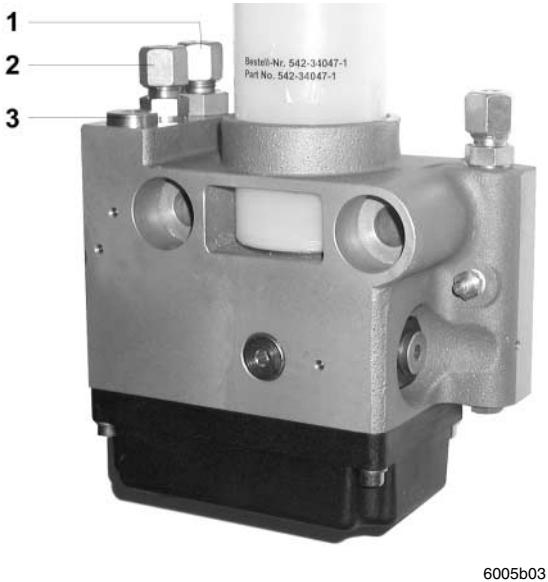

Fig. 2 Hydraulic oil connection of the pump HTL 101
- via the pressure connection P (Fig. 2, item 1)
- and back to the hydraulic system of the carrier via the return line connection R (Fig. 2, item 2)
The flow quantity of the hydraulic oil can be adjusted via the regulating throttle valve (Fig. 2, item 3), thereby, adjusting the output quantity of the pump accordingly. The throttle valve is notched, whereby eight notches correspond to one complete rotation.
- 1 - Pressure connection (P), M 16 x 1.5 with integrated oil strainer
- 2 - Return connection (R), M 16 x 1.5
- ☞ Open the cover cap of the throttle valve (Fig. 2, item 3)
To adjust the throttle valve, stop the hydraulic system operation. The throttle valve may still be pressurized for a long time after switching off the hydraulic unit. Always check first whether the pressure connection P (Fig. 2, item 1) is depressurized (the eccentric shaft no longer rotates).